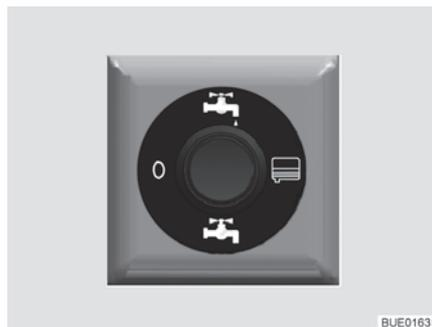

Fig. 197 Operating switch for electrically operated drainage valve (partially special equipment)
- Press the operating switch (Fig. 197) at the top. The waste water is drained.
- Once all the waste water has drained completely, press the operating switch (Fig. 197) at the bottom.
- Set the operating switch (Fig. 197) to the "0" position (power off).